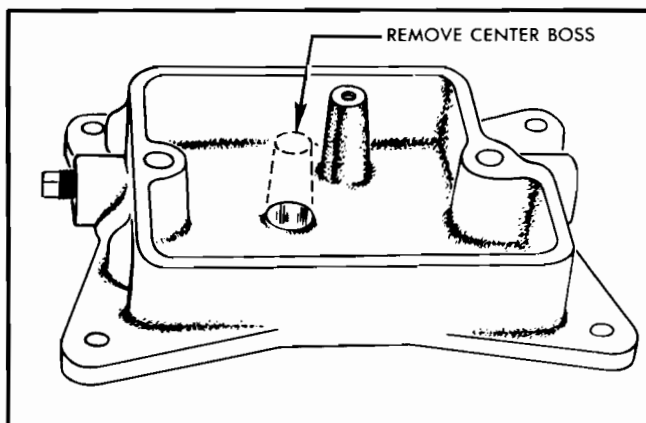

Figure No. 59—Base Oil Pump Conversion
The first production of the 700A Series Engines had a plunger-type oil pump in the base. (See Figure No. 59.) It was later found that the splash type lubrication system was more positive and required less service. When these engines come in for service it is recommended that the system be replaced as follows:
2. Remove the center boss from the base with a cutting torch, large drill or metal saw, notching boss on three sides and removing with sharp hammer blow. (See Figure No. 59.)